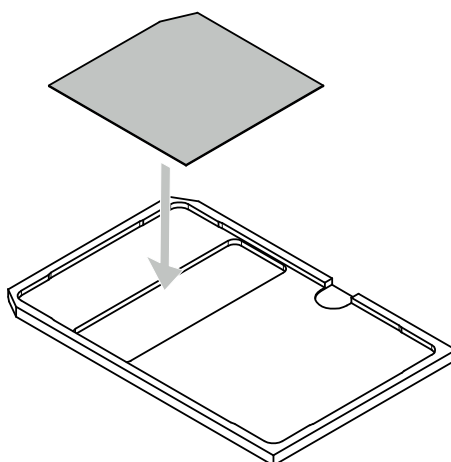

Figure 1.13 Put the film in the film cassette tray
- a Put the film in the film cassette tray, see Figure 1.13.